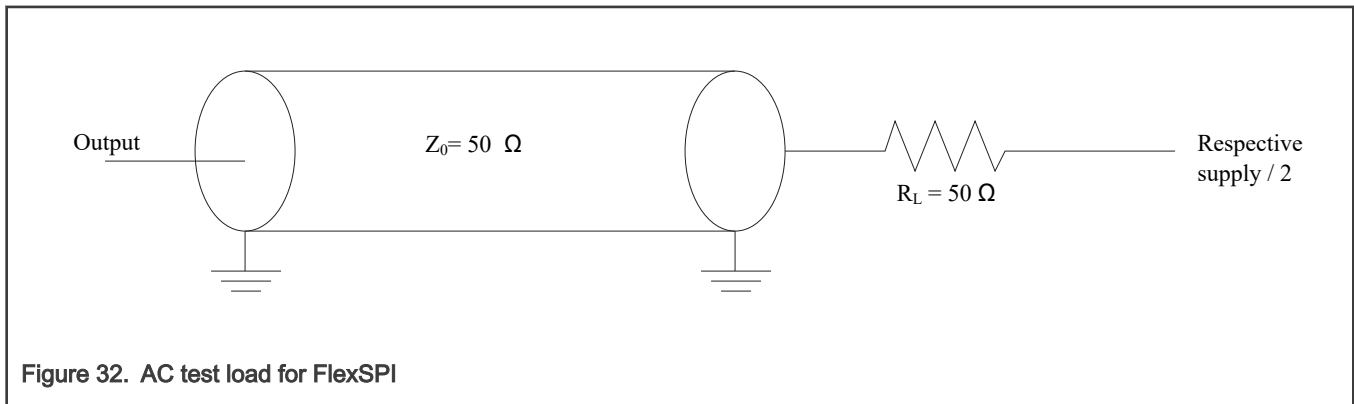

Figure 32. AC test load for FlexSPI
2. See Figure 32.
1. Refer the FLSHxyCR1 QorIQ LXxxxARM for more details, where x: A or B, y: 1 or 2 2. See <a href="#">Figure 32</a> . 3. See <a href="#">Figure 33</a> . 4. See <a href="#">Figure 34</a> . 5. T = FlexSPI clock period 6. Characterized.
1. Refer the FLSHxyCR1 QorIQ LXxxxARM for more details, where x: A or B, y: 1 or 2 2. For DDR, Unit Interval (UI) is half of period. For example, 5 ns for 100 MHz 3. See "Data Learning Feature" section in QorIQ LXxxxARM for details 4. See <a href="#">Figure 32</a> . 5. See <a href="#">Figure 33</a> . 6. See <a href="#">Figure 35</a> . 7. T = FlexSPI clock period 8. Characterized.